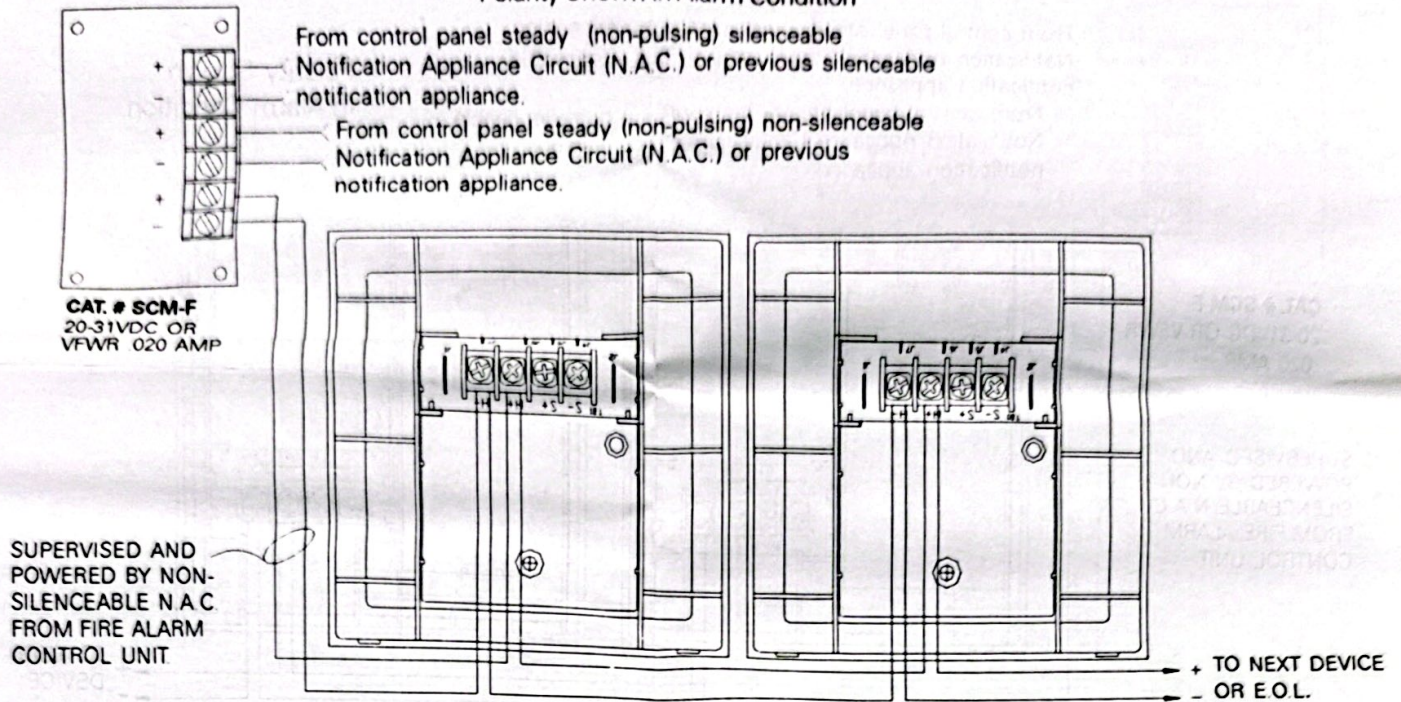

Fig. 5
3. Connect wiring (see fig. 5 or 5a).